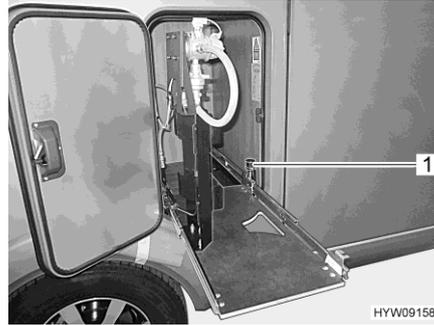

Fig. 86 Gas bottle compartment pull-out in changing position
- Pull the knob (Fig. 86,1) upwards. The gas bottle compartment pull-out is unlocked.